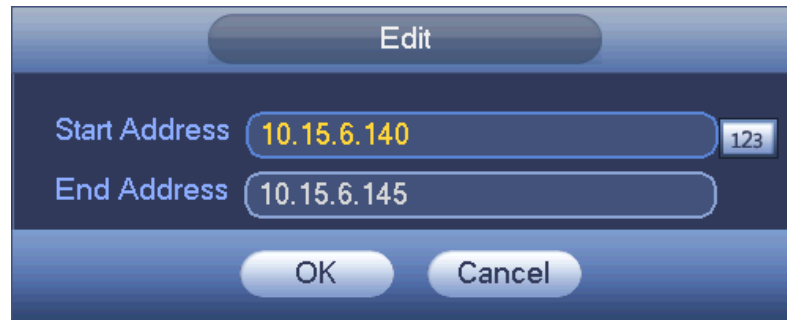

Figure 4-115
- **Edit:** Click it to edit start address and end address. See Figure 4-115. System can check the IP address validity after the edit operation and implement IPv6 optimization.